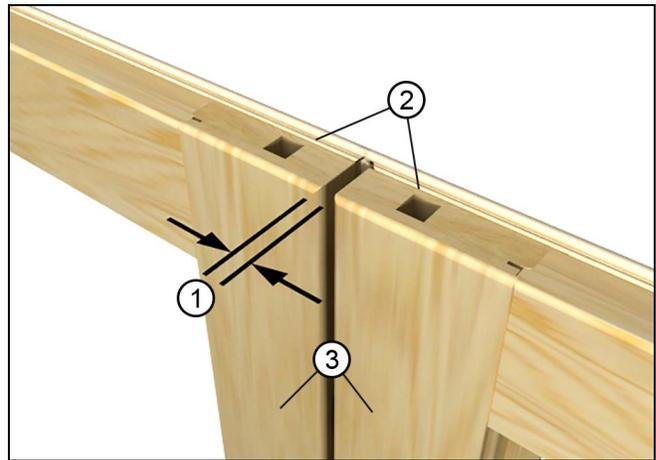

Figure 17
**9. For Swinging Panels:** If one panel is further to the exterior than the other (or on a single operating panel door the panel does not align parallel to head jamb) check sides of frame for plumb. If correct and the panel(s) still do not align, move the top of one or both sides of the frame slightly in or out. On a multiple panel unit check to make sure top corners of the panel locking stiles are aligned and flush with each other. On a single operating panel unit check to make sure the margin along panel top and head jamb are even. See Figure 17. If one panel is higher/lower move the top of the frame horizontally until the panels align.